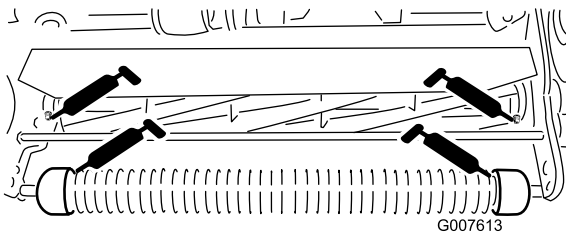

Figure 11
- 2 on the front roller (Figure 11)
- 2 on the reel bearings (Figure 11)